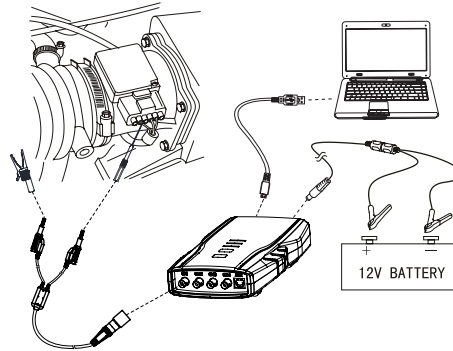

Fig. 31: Equipment connection
1. Connect equipment according to Fig.31, switch on power supply.